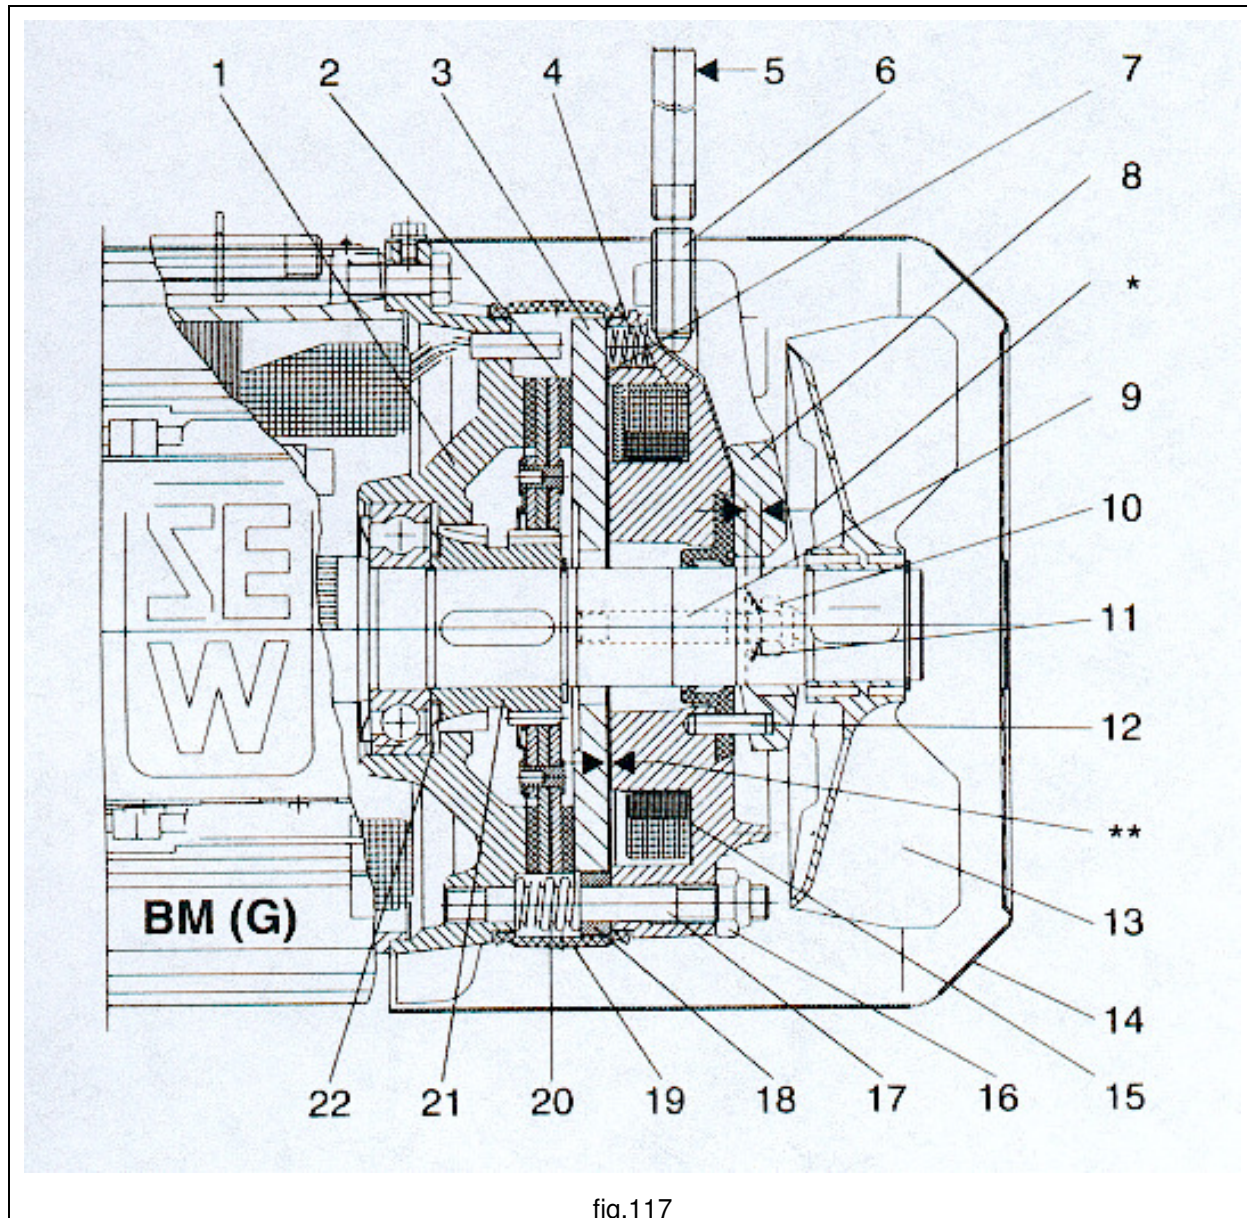

fig.117
- When the air-gap exceeds the maximum value indicated (fig.117), the brake must be regulated as follows:
- The braking torque can be modified by assembling different numbers and types of springs, as outlined below (fig.117):